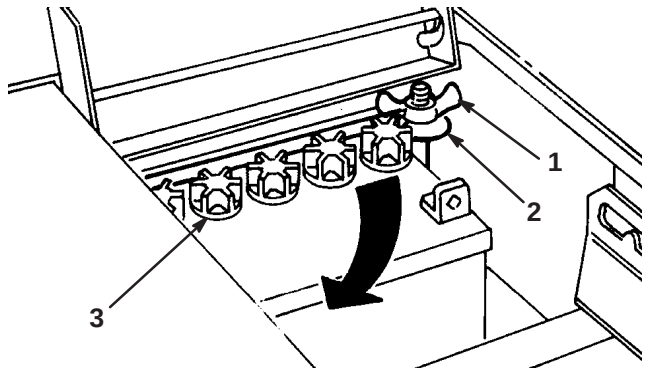

Figure 4
- Remove wing nut securing battery hold downs to rider chassis (Fig. 4).